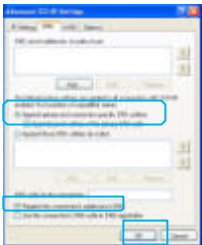

Figure 6
7. Select the [DNS] tab and check that the Append primary and connection specific DNS suffix is selected. Click OK. (Figure 6)